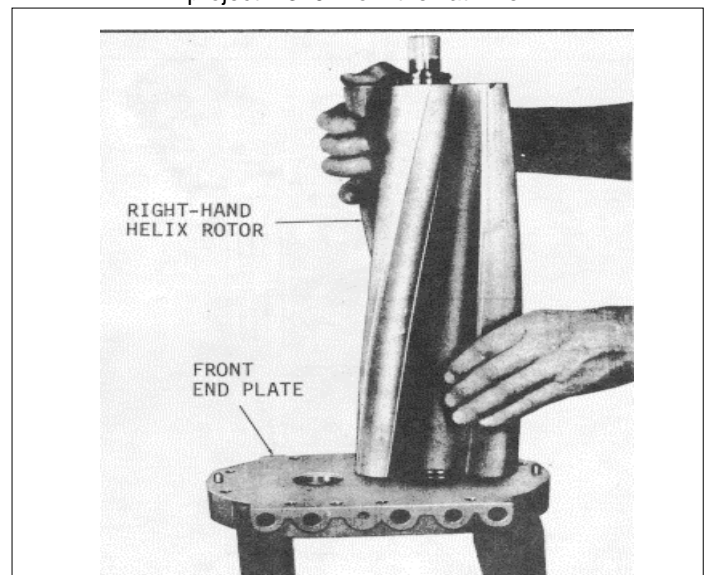

Fig.12
- (c) Support the front end plate on two wood blocks approximately 4" high, with the inner face of the end plate facing up and the TOP side of the plate facing the serviceman's right (Fig.12).
- (f) With the omitted serration in the splines of the shaft facing toward the top side of the end plate, start the end of the rotor shaft into the right-hand shaft opening in the end plate so that the gap portion of the seal ring is started into the ring collar (Fig.12).Continue to lower the rotor and very carefully apply pressure to the seal ring approximately 180° from the gap while